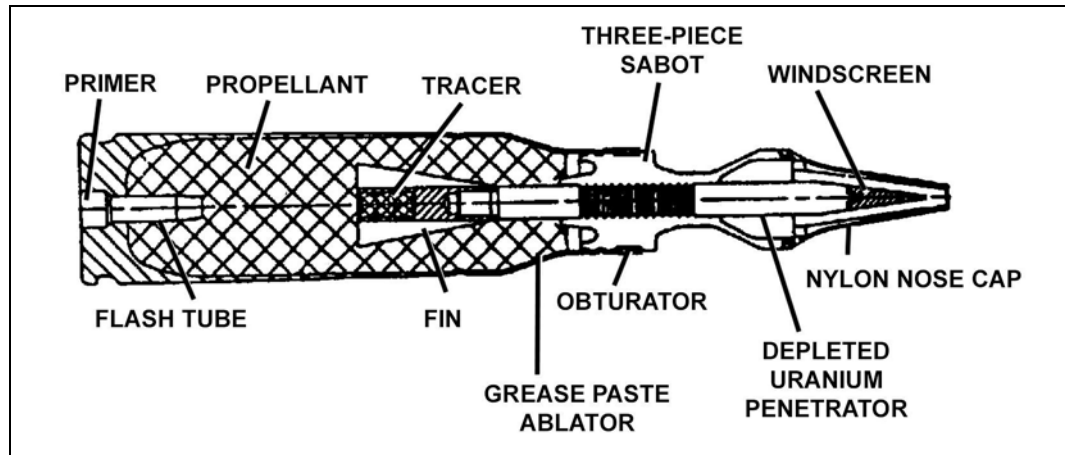

Figure 2-14. M919 APFSDS-T.
e. **M919 Armor-Piercing, Fin-Stabilized Discarding Sabot With Tracer.** The armor-piercing, fin-stabilized discarding sabot with tracer (APFSDS-T) round (Figure 2-14) penetrates lightly armored vehicles, self-propelled artillery, and aerial targets, which includes helicopters and slow-moving fixed-wing aircraft.